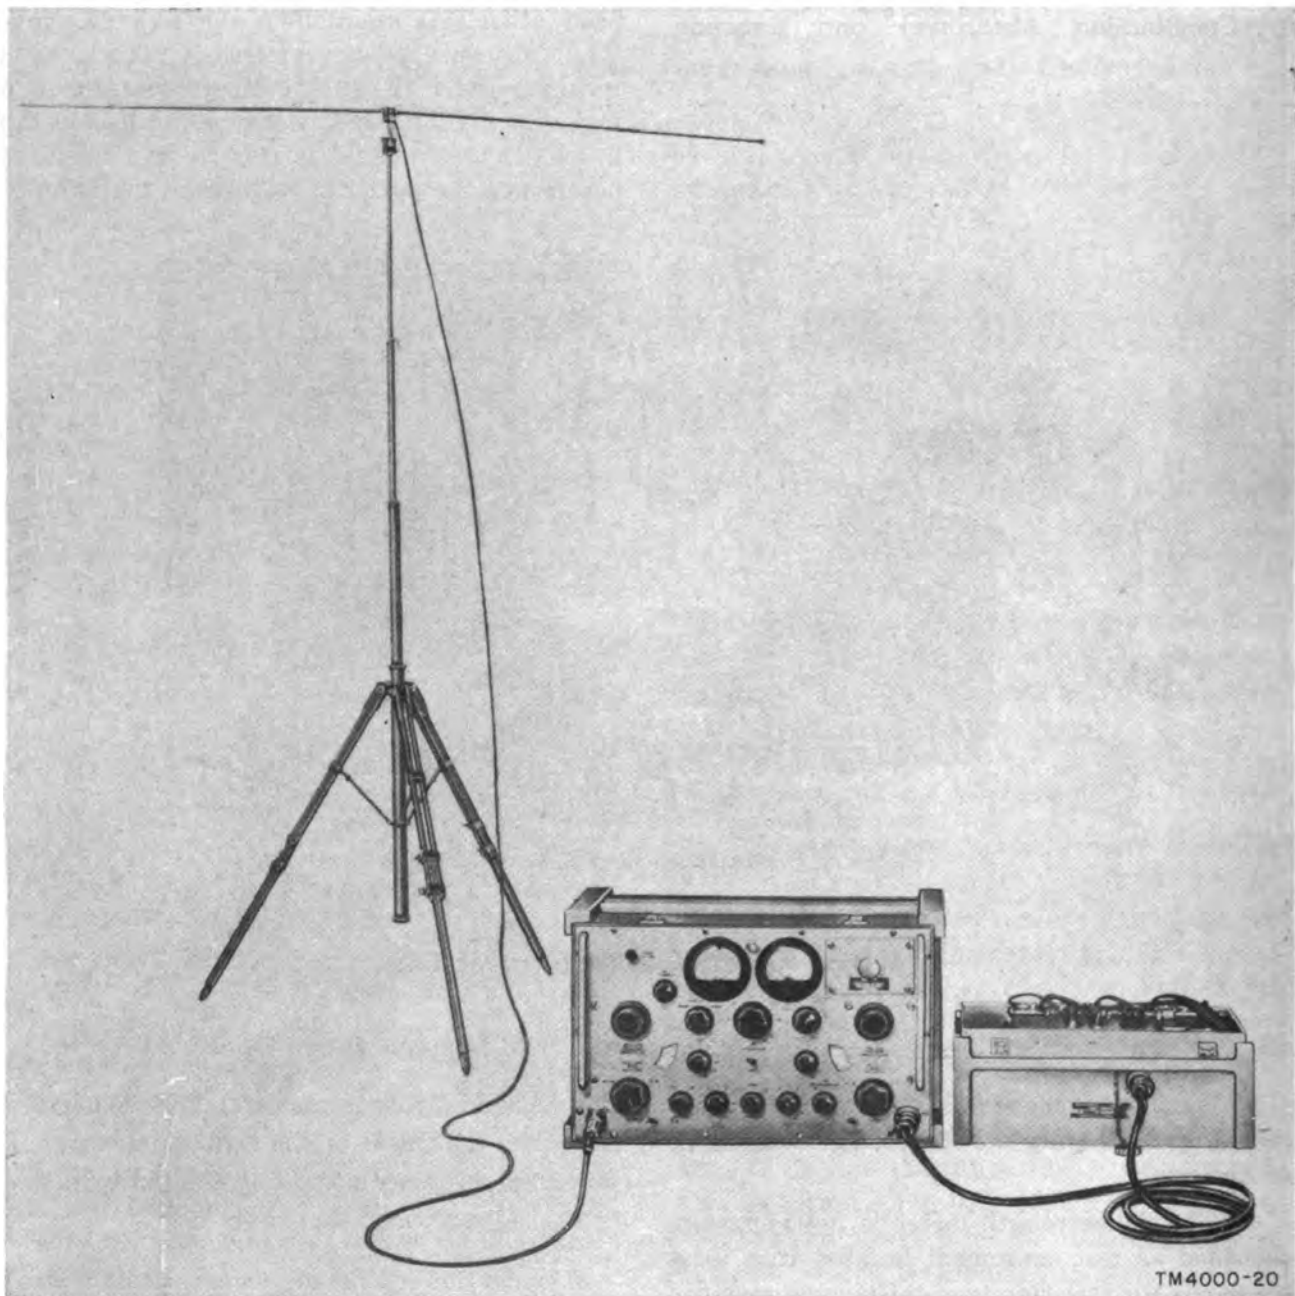

Figure 37. Absolute field-strength meter.
c. To determine the best site for a transmitter, move the field-strength meter from place to place, and compare the readings at each location. Place the field-strength meter in the desired receiver location and move the transmitter, if portable, to produce the best results. An absolute field-strength meter is shown in figure 37.